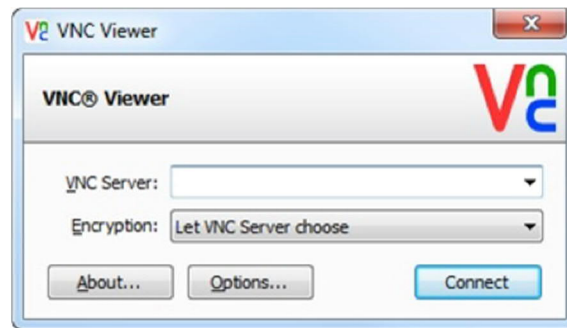

Figure 88: Real VNC Viewer Installation Screen
14. Open the program by clicking the Connect button. (Figure 88)